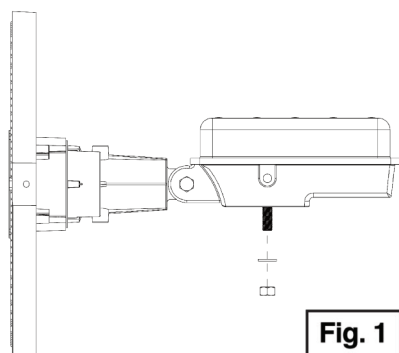

Fig. 1
- 1.) Loosen the nut on the threaded bolt protruding from the junction box (See Fig. 1)